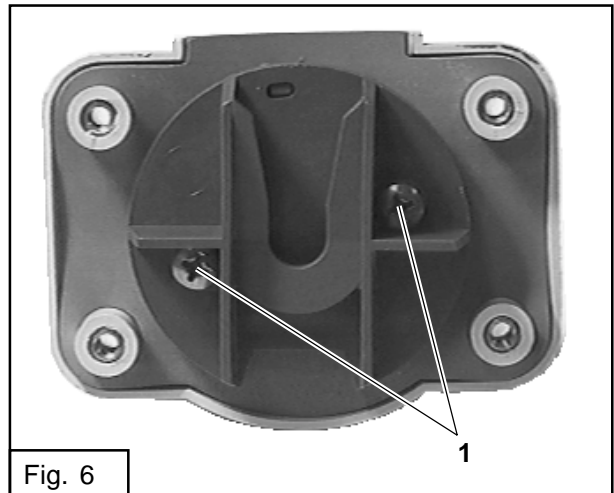

Fig. 6
- For dismantling the bottom console, unscrew the plunge holder (1). (Fig. 6)